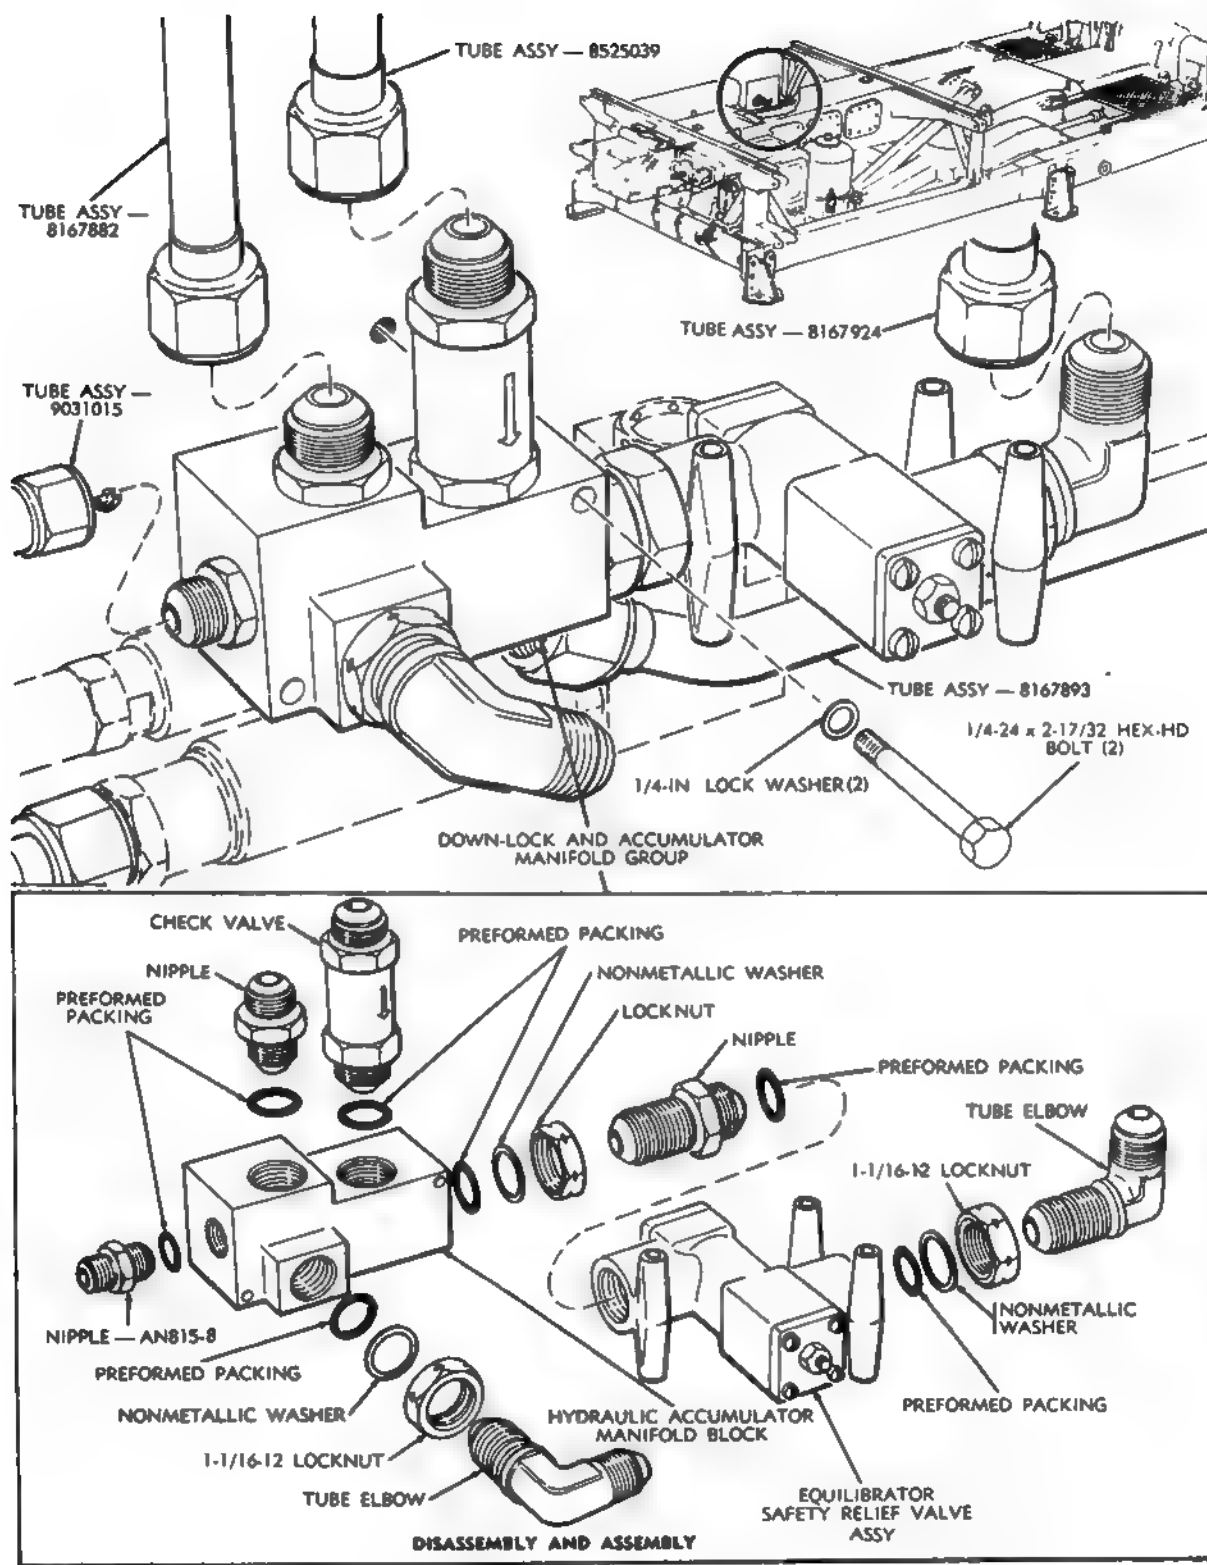

Figure 159. Down-lock and accumulator manifold group—removal and installation.
- (d) Disconnect five tube assemblies (fig. 159) attached to down-lock and accumulator manifold group.
- (2) *Disassembly.* Disassemble manifold group.
- (3) *Assembly.* Assemble down-lock and accumulator manifold group.
- (4) *Installation.*
1. Open valves and depressurize as described in (1) (a) and (b) above.
2. Remove attaching tube assembly (figs. 159, 194, and 195).
(b) Check the tube end and coupling nut and the mating part which attaches to tube assembly (fig. 159) for damage or deformation.
(c) Replace all defective parts and install tube assembly (figs. 159, 194, and 195) as described in (4) (b) through (d) above.